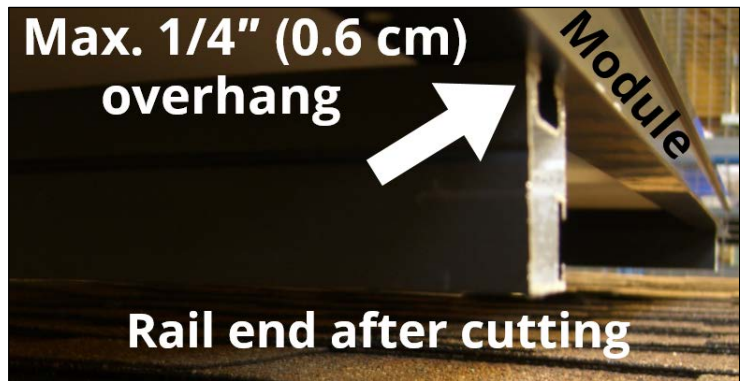

Fig. 22
**Important!** The maximum distance the module is permitted to overhang the rail is 1/4" (0.6 cm) (Fig. 22).